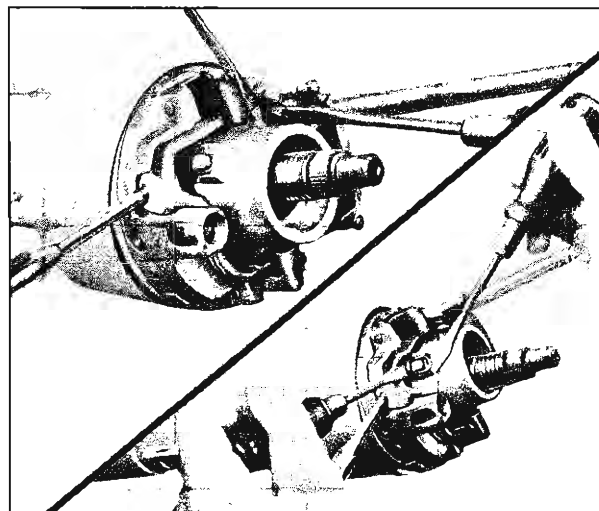

Fig. 20—Unseating Return Spring
9. Using Tool J-21181 and a screw driver, unseat the upper ends of the tilt return springs (fig. 20).